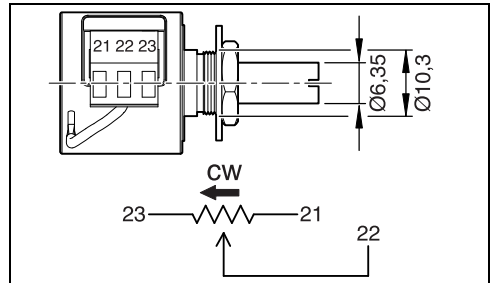

Fig. 40
- ▶ Connect the connecting cable with terminals 21, 22, 23 of the potentiometer according to Fig. 40.